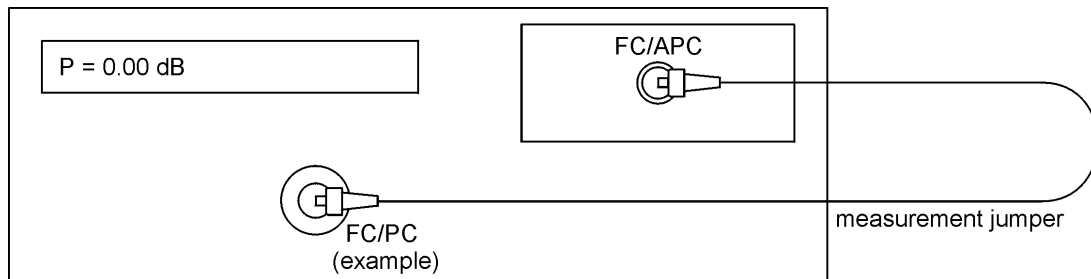

Figure 7: Loss and Power Measurements
9. Release the Power key. The display reads 0.00 dB, and the loss of the measurement jumper is subtracted from the DUT loss or power measurements to be made (Figure 7).